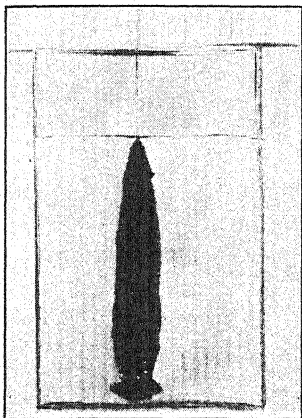

FIG. 18. — The zinc strip goes into solution, displacing the lead which is deposited in the form of crystals.
3. *Substitution.* Let us suspend a strip of zinc in a dilute solution of sugar of lead, or lead acetate, and let the apparatus stand for a half hour. (See Fig. 18.) We find that